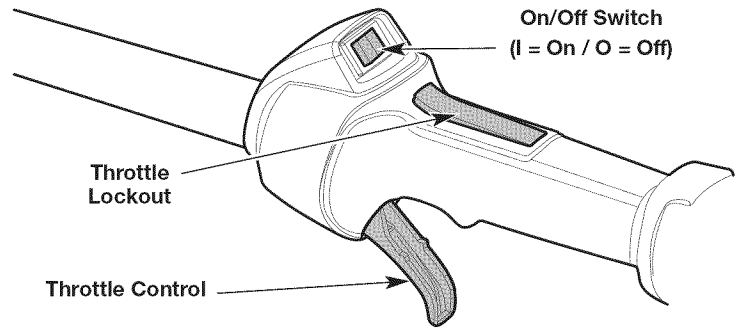

Fig. 7
**NOTE:** There is no need to turn the unit on. The On/Off switch is in the **On (I)** position at all times (Fig. 7).
**NOTE:** **DO NOT** squeeze the throttle control until step 8 (Fig. 7).
8. Press and hold the throttle lockout (Fig. 7). Squeeze the throttle control as needed for operation (Fig. 7).
2. Press and hold the On/Off switch in the **Off (O)** position until the engine comes to a complete stop (Fig. 7).
**NOTE:** There is no need to turn the unit on. The On/Off switch is in the ON (I) position at all times (Fig. 7).
**NOTE: DO NOT** squeeze the throttle control until step 10 (Fig. 7).
10. Press and hold the throttle lockout (Fig. 7). Squeeze the throttle control as needed for operation (Fig. 7).